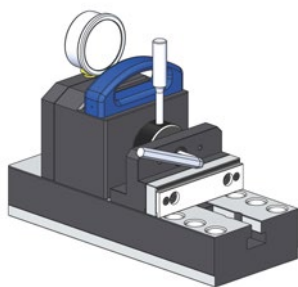

Figure 10
5. Loosen the screw inside the knurled screw using an Allen key (Figure 10).